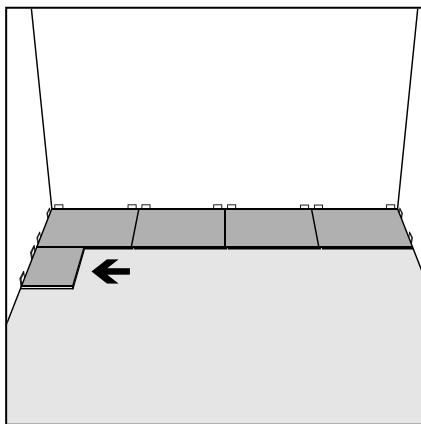

Figure 15 First plank, second row
- Insert a spacer between the end of the first row and the wall (expansion gap). Start this new row with the leftover piece from the last row (min length 350mm- Fig 15).